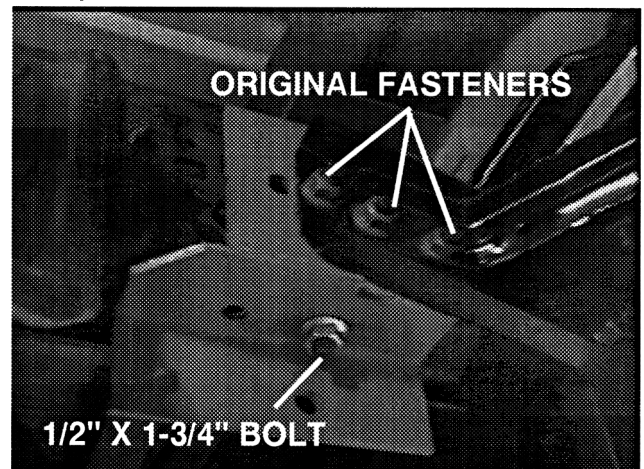

Figure 5
2. Position rear subframe mounting brackets to vehicle frame and align holes. Install one 1/2" x 1-3/4" grade 8 carriage bolt and backing plate with narrow offset toward radius of frame rail from top down through rear-most hole. Retain with 1/2" locknut. See Figure 5.
3. Install bumper with bumper brackets outside of subframe mounting brackets. Retain with original bumper mounting fasteners. See Figure 5.